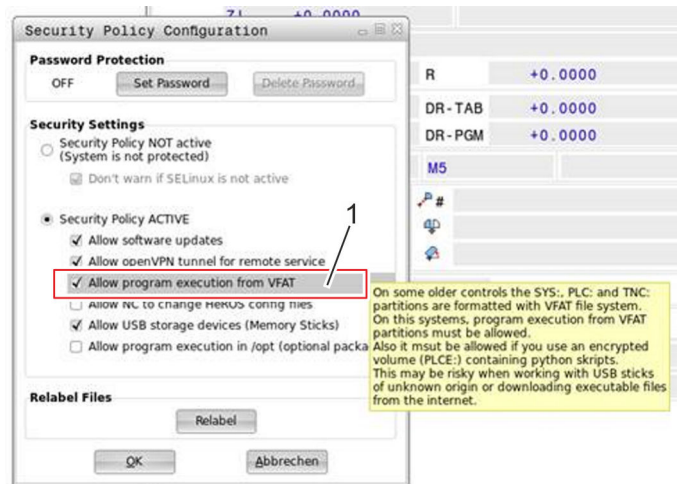

Fig. 13: SELinux security software
2. ➔ Select the “Allow program execution from VFAT” check box (Fig. 13/1).